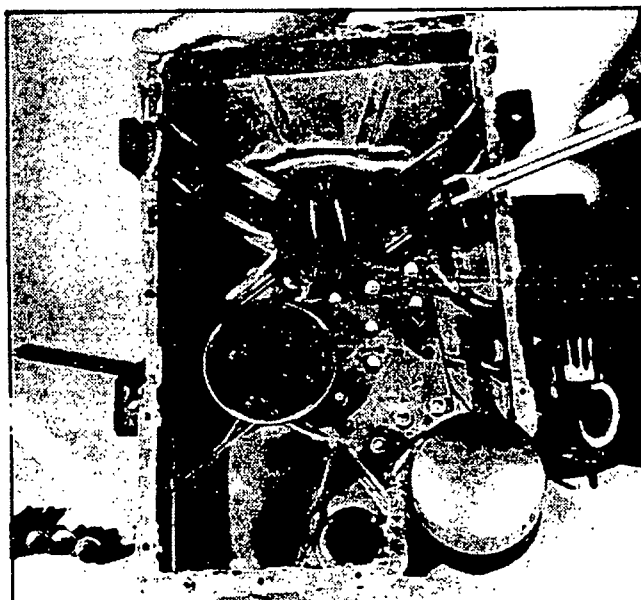

Figure 11
Remove (6) 1/4-20 screws attaching oil sump to block. Using a soft mallet, gently tap sump to free it from crankshaft. See Figures 11 and 12.